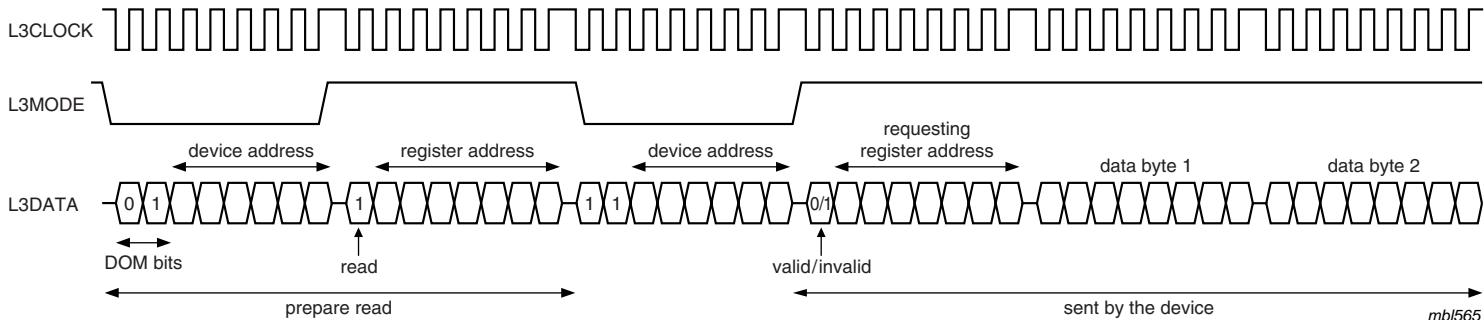

Fig 12. Data read mode
2. Addressing for prepare read: bit 0 is logic 1, indicating that data will be read from the register; see Figure 12.
3. Addressing for data read action. Here, the device returns a register address prior to sending data from that register. When bit 0 is logic 0, the register address is valid; when bit 0 is logic 1, the register address is invalid; see Figure 12.
To read data from the device, a prepare read must first be done and then data read. The data read mode is explained in the signal diagram of Figure 12.